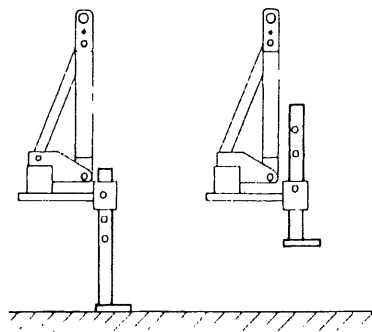

FIG. 9
10.6 - If applicable, position the support foot as shown in fig. 9.